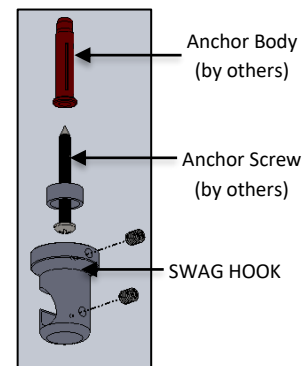

FIG. 10 – SWAG HOOK INSTALLATION
4. Attach the provided SWAG HOOK to the ceiling with anchors (by others) as shown in FIG. 10. See the final page of these instructions for several examples of how the hooks can be laid out. Carefully unroll GLOWBALL BODY CORDS. Avoid kinking the FIXTURE CORD, kinking the CORD will damage it.